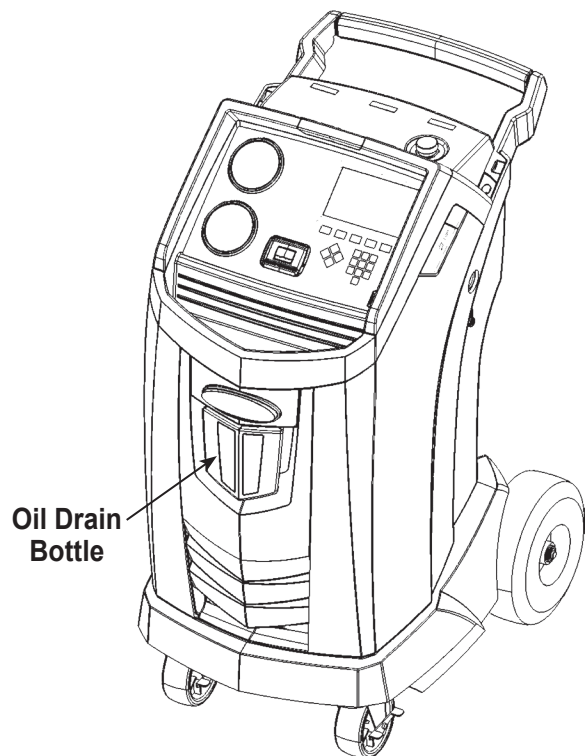

Figure 4
2. If the system does NOT have an electric compressor with POE oil, select **X** to continue. If the system has an electric compressor with POE oil, select **✓** to flush all residual oil from the hoses. The user will be prompted to “Connect service hoses to storage ports and open coupler valves.” See Figure 4 on page 19. Continuing will begin the process of flushing the hoses. Once complete, select **▶▶** to continue through the Charge process.
3. Remove the oil drain bottle (see Figure 4) from the Robinair machine. Drain the oil bottle, and dispose of the oil according to applicable regulations. Reinstall the oil drain bottle on the machine.